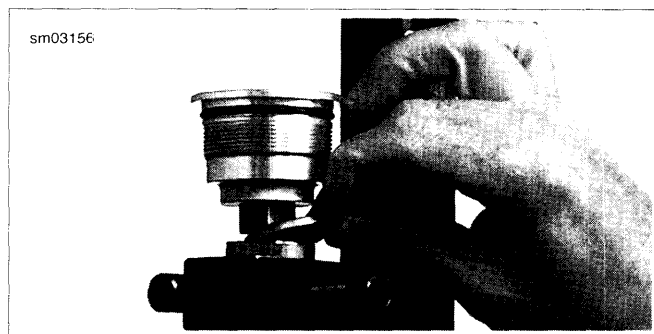

Figure 2-173. Install Keeper
2. See Figure 2-173. Compress fork using FRONT FORK COMPRESSOR (Part No. HD-45966).